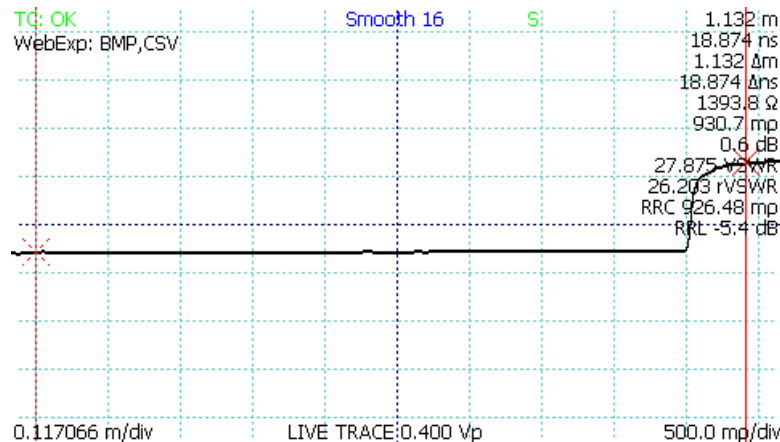

Figure 19: AUTOFIT cable. The cable termination is an open.
- 3) Press and briefly hold the *AUTOFIT* button before releasing. The CT100 trace is now scaled to show the entire cable from beginning to end. See Figure 19.